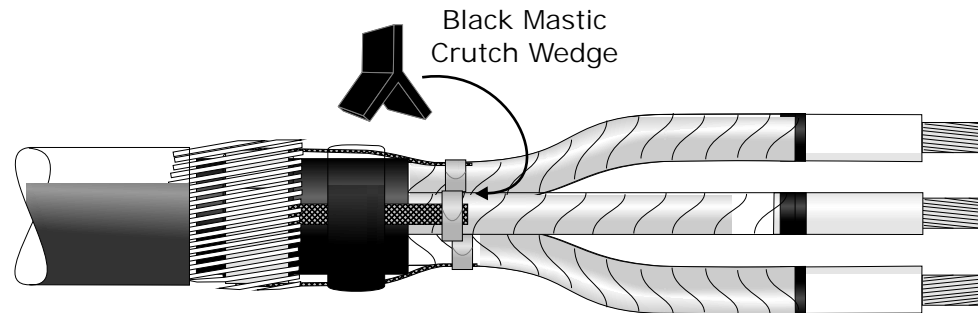

Fig 5
5. Open up the cores and insert the black crutch wedge, as far as possible (Fig 5).